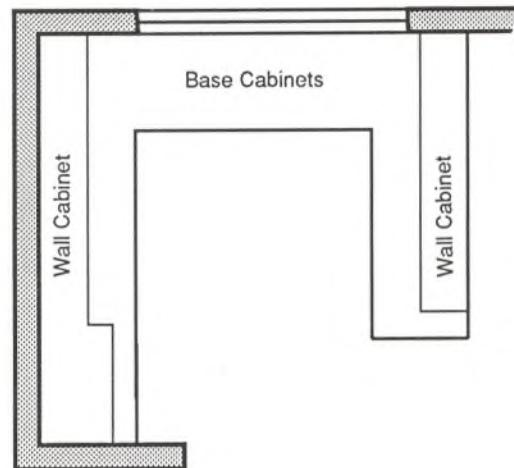

Fig. 9.12 A plan showing base and wall cabinets.
1. In the first stages of kitchen planning, it was only necessary to indicate on the plan the area where the base and wall cabinets would be located. Wall cabinets are usually indicated with a fine solid line. Figure 9.12 shows the first layout of a plan with the cabinets indicated.